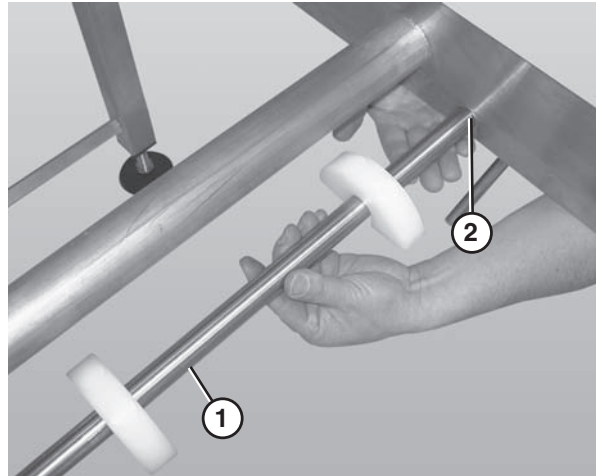

Figure 55
1. Remove the belt returns by pushing up on the return shaft (Figure 55, item 1) and sliding it through the large hole (Figure 55, item 2) in the frame.
2. Lower the opposite end of the return shaft (Figure 55, item 1) and slide it out of the frame.